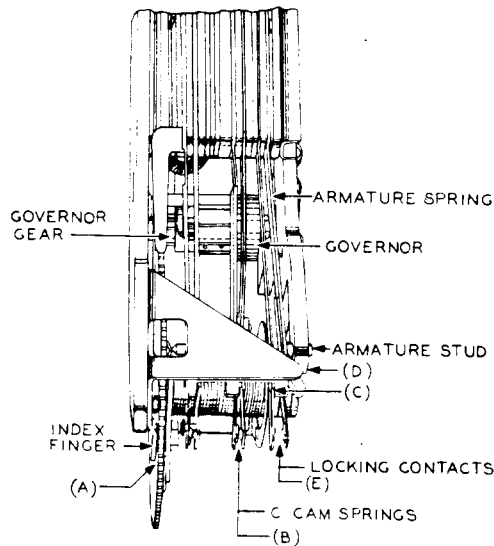

Fig. 12 - Engagement of Governor Gear and Pinion
2.13 Index Finger Position: Fig. 12(A) -
- *(e) Armature Spring Tension: Fig. 12(D) - The tension of the armature spring shall be such that the force required to move the armature away from the armature adjusting screw shall be
- (b) "C" Cam Contacts: Fig. 12(B) - With the armature electrically operated and the timer gear rotated so that the C spring finger rests on the flat of the "C" cam, the contact separation shall be
- (c) Locking Contacts: Fig. 12(E) - With the armature unoperated, the contact separation shall be
2.22 Contact Follow: Fig. 12(C) - With the armature electrically operated and the timer gear normal, the clearance between the tang on the solid locking contact spring and its stop shall be